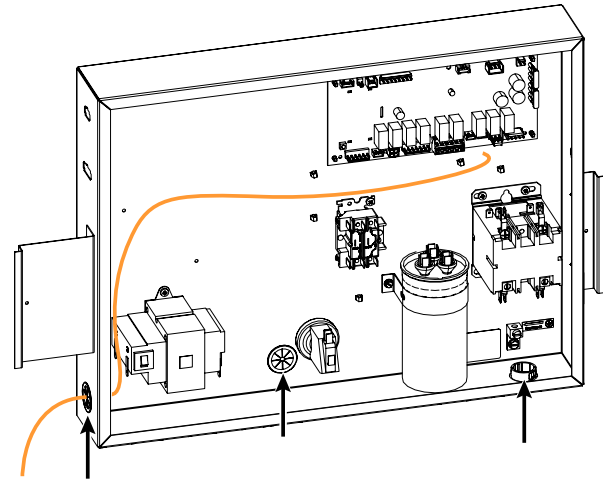

Figure 132. Grommets in Control Box
7. Use the grommets in the control box to run wires from inside the corner post to the inside of the box, up to the control board terminal(s). See **Figure 132**.